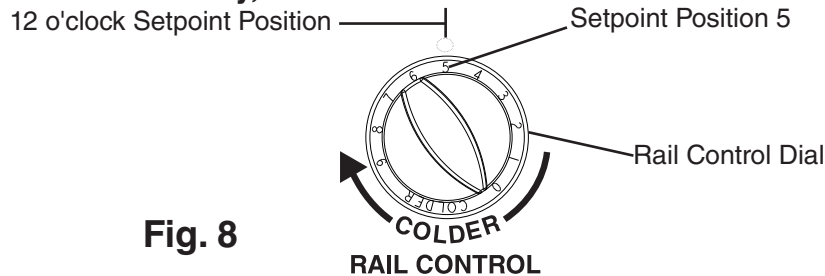

Fig. 8
- a) **Rail Control Dial Adjustment.** To adjust day mode temperature setpoint, rotate the control knob counterclockwise for a warmer setting and clockwise for a colder setting. See Fig. 8. 1 is the warmest setting and 9 is the coldest setting. For "OFF" position, rotate to 0 setting. Note: The factory default setting is position 5 on the rail control dial (27°F (-2.8°C)). There is a 2.25°F (1.25°C) difference between each number setting on the control knob. Night mode is a programmed temperature offset of 8°F (4.4°C) above the day mode rail control dial setting. **NOTICE! The rail control dial, in conjunction with the rail control module, controls compressor operation. Cabinet fan motor operation is controlled by rail control module, cabinet fan motor relay, and the cabinet control module.**